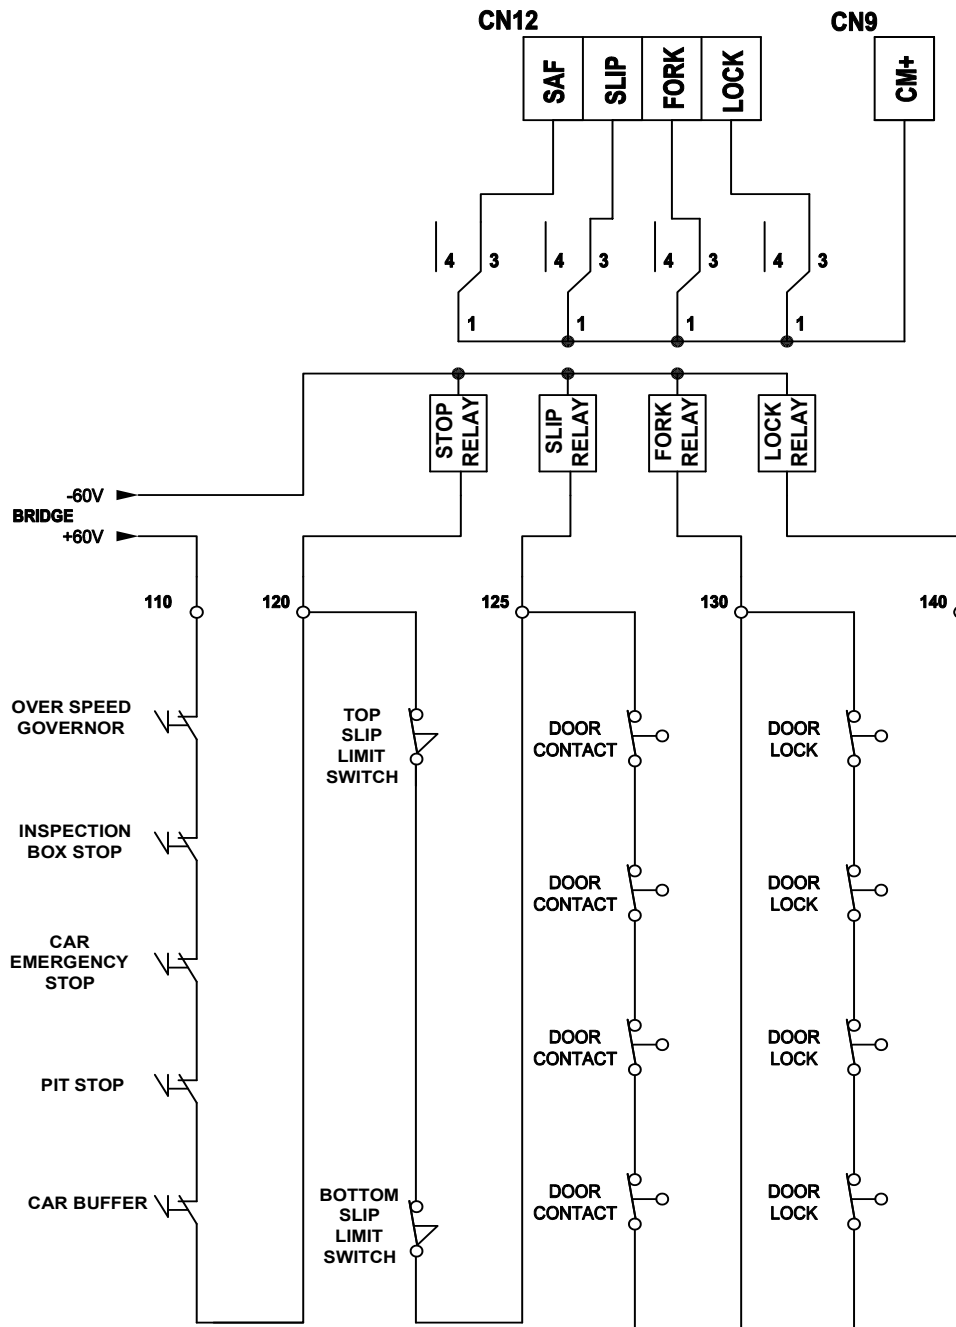

Figure 14.0 - Safety Circuit Connections
The terminals of the Safety Circuits are connected as illustrated in Figure 14.0.
- Figure 14.0 represents a guide for connecting Safety Circuits to the shaft terminals (CN12) on the XC-GL series board.
- The Safety Circuits are operated with 60V DC using an external relay as illustrated in Figure 14.0.
- Figure 14.0 represents the condition when all safety circuits are closed, where the car can operate normally.